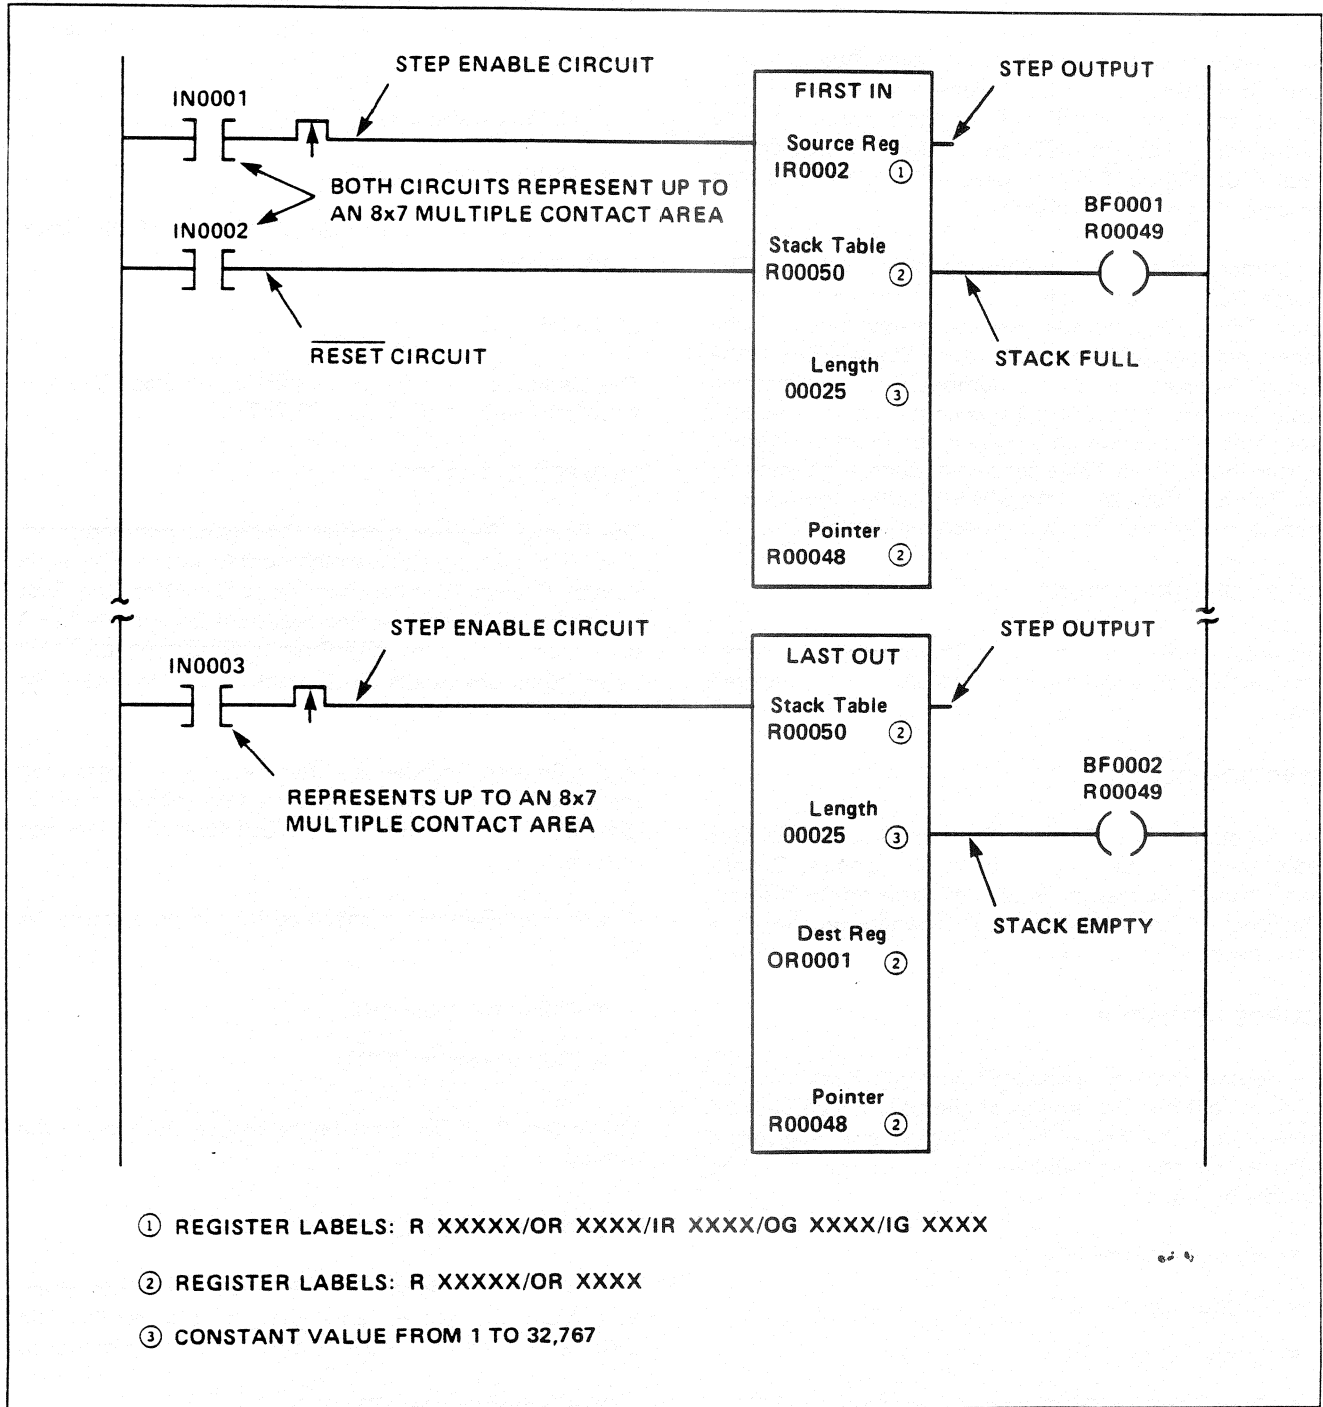

Figure FI-4. FILO Stack Operation
A typical circuit containing the First In Stack and Last Out Fetch functions is shown in Figure FI-4. Observe the Figure and note the following 4 points:
4. The Pointer Register is incremented by 1 when the step enable circuit of the First In Stack function conducts. It is decremented by 1 when the step enable circuit of the Last Out Fetch function conducts. The Transitional functions (007) are used in the step enable circuits of Figure FI-4 to prevent incrementing and decrementing during each scan.